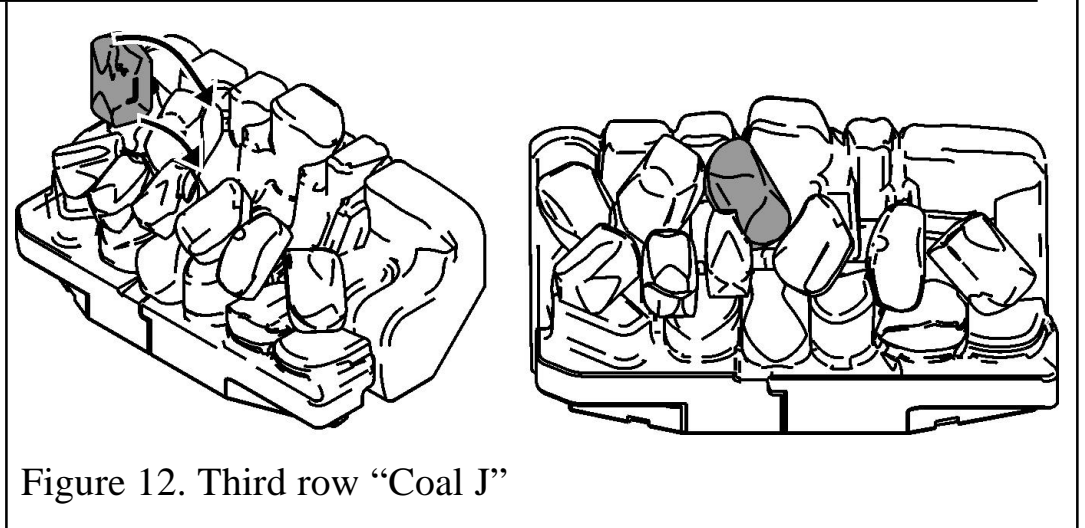

Figure 12. Third row "Coal J"
**14.** Hold coal 'J' upright with the arrow pointing to the top. Locate coal 'J' as shown in figure 12